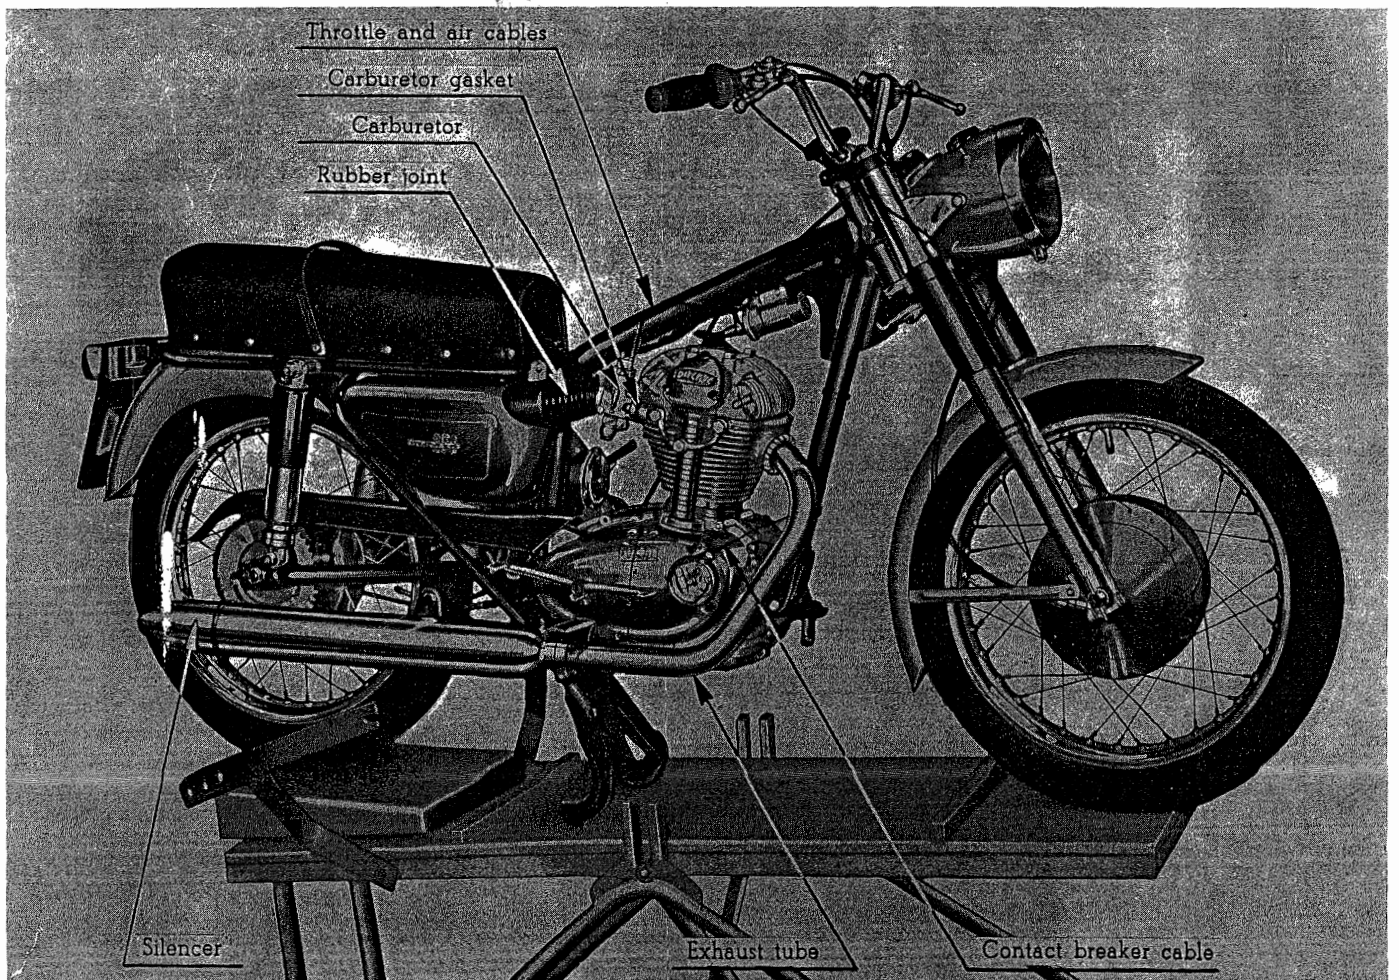

Fig. 133
Connect the H.T. coil-contact breaker wire to the breaker arm and soft-solder (see Fig. 133).
Fit the muffler, locking its rear side and tighten the clamping-ring completely using a spanner (23) (see Fig. 133).